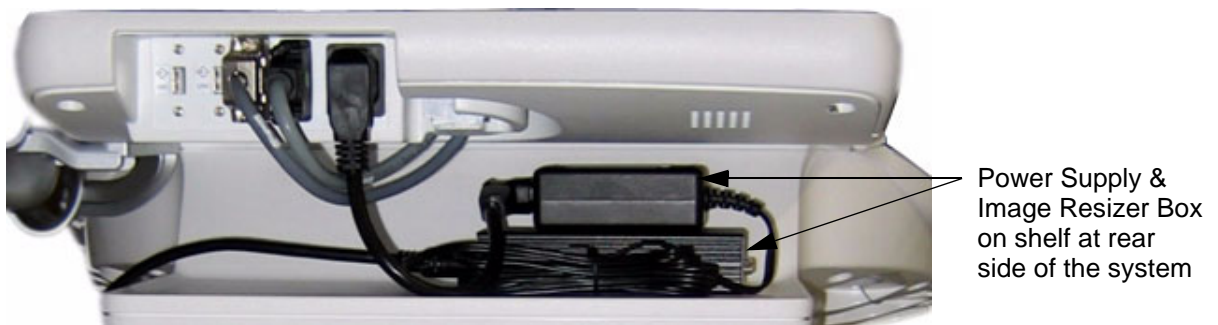

Figure 8-28 Power Supply and Image Resizer on shelf at rear side of the system
- 3.) Peel off the protective film from the adhesive tapes (on bottom of Image Resizer Box) and fix the complete package on the shelf at the rear side of the system (see: Figure 8-28 below).